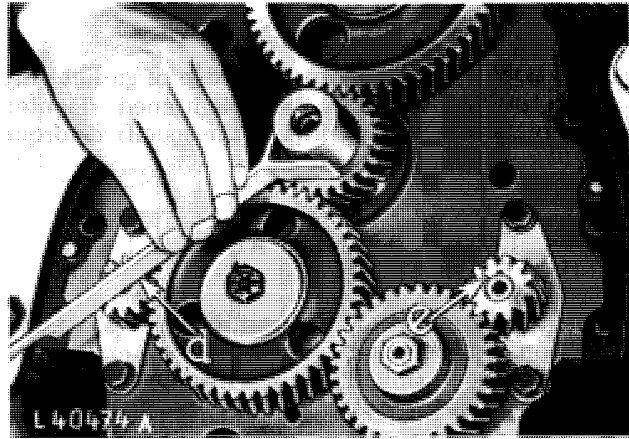

Fig. 6 - Timing Balancer Shaft Gear by means of Timing Tool No. JD 254
8. While the crankshaft is set in its TDC position in accordance with paragraph 2, align both balancer shaft gears with the aid of timing tool No. JD 254. Rotating the balancer shafts, set the balancer gear markings (see "d" and "e", fig. 6) so that they are in alignment with the centre of the crankshaft and balancer shaft (see fig. 6).